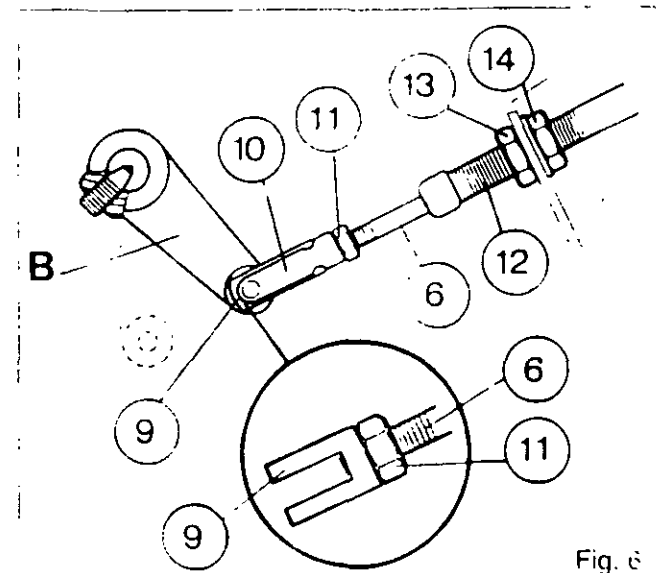

Fig. 6
25. Screw clevis (1) right to the end of the threaded part of cable (6).
26. Attach clevis (1) to lever A with pin (7) and tighten up nut (2).
27. Adjust cable ferrule (5) to bring nut (3) flush with the end of its threaded portion.
28. Tighten up nut (4).
29. Move arm B to the «Creeper gear» position (Fig.6) (external teeth on coupling sleeve (8) engaged in rearwards direction (Fig.3)) - fork locked.
30. Screw clevis (9) right to the end of the threaded portion of cable (6) (Fig.6).
31. Attach clevis (9) to arm B with pin (10) and tighten nut (11) (Fig.6).
32. Adjust ferrule (12) with nut (13), while making sure that arm B remains properly locked.
33. Tighten up nut (14).